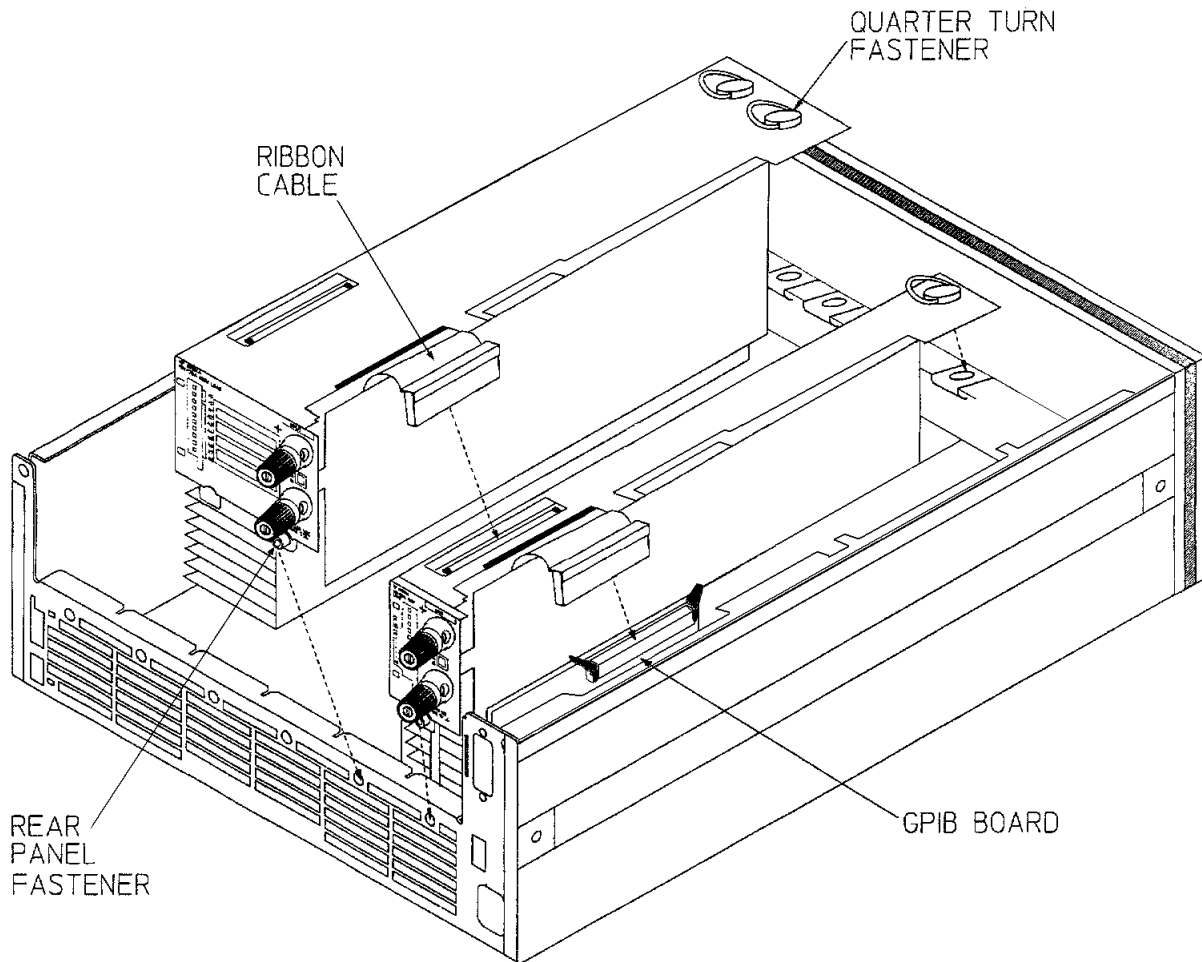

Figure 3-1. Module Installation Diagram
4. Start installing the modules in the slot next to the GPIB board (see figure 3-1).